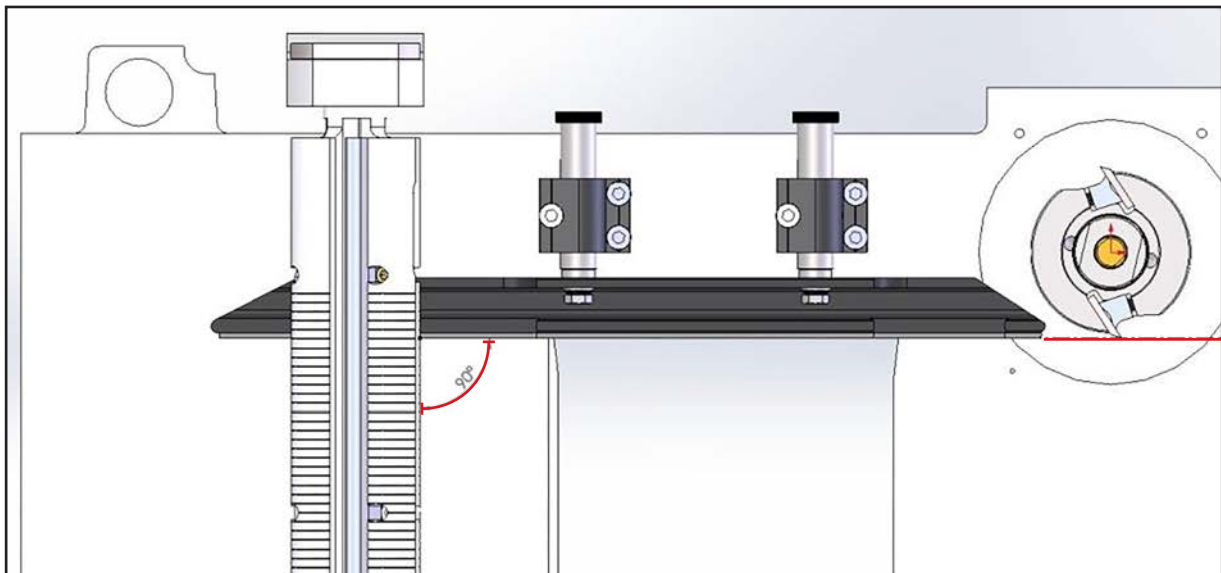

**Figure 45.** Outfeed fence 90° to upper cutterhead and aligned with right cutterhead knives (top view shown).
1. Adjust the outfeed fence so it is 90° to the upper cutterhead (see **Figure 45**).
2. Adjust the outfeed fence so it is aligned to the knives on the right cutterhead (see **Figure 45**).